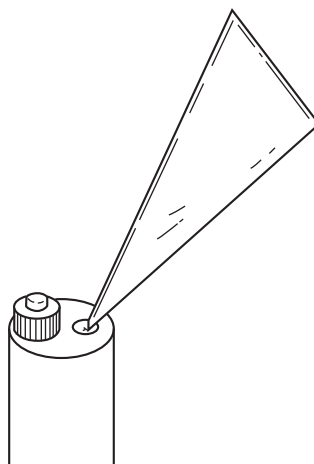

Figure 3.2 Pouring KCl Powder into Sensor
- (2) Remove the sensor from its holder. Wipe off dirty areas on the sensor tip.
- (3) Remove the liquid junction from the sensor. Leave the glass electrode mounted securely.
- (4) Drain the KCl solution in the sensor through the liquid junction mounting hole.
- (5) Wash the inside of the sensor. Pour about a 10 ml KCl solution (or pure Water) into the sensor from the liquid junction mounting hole. Shake the sensor and then drain the solution or pure water completely from the sensor.
- (6) Pour about 10 or 12 grams of powder into the sensor, Use a bag of KCl powder when using the optional KCl solution kit, Cut off the tip of the bag and follow Figure 3.2 below. If the KCl powder has hardened, break it up into pieces. Then do the above.